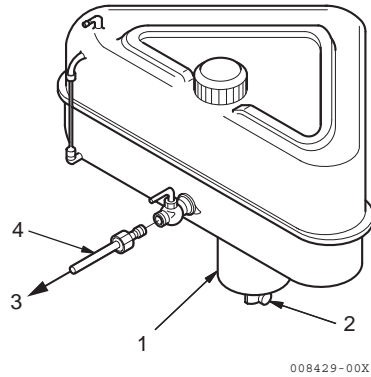

Figure 4
2. Put a container under the drain cock (**Figure 4, (2)**) to catch fuel.